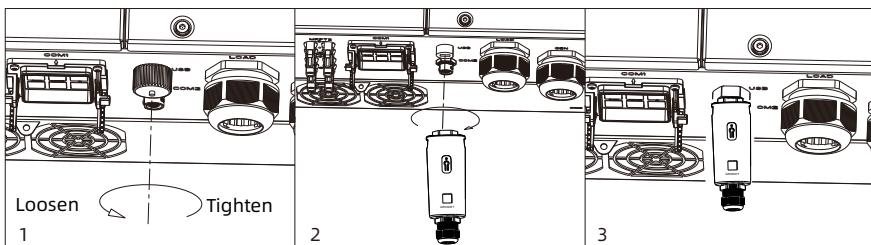

Fig.6.24 USB Connection
- 2> As shown in Fig 6.24, insert the WiLAN-X2 module into the USB interface, and the LED indicator of the WiLAN-X2 module will be on.
- 3> As shown in Fig 6.24, make sure that the ▲ is facing frontwards as the inverter has been wall-mounted, insert the monitoring module into the USB interface, and tighten the lock.